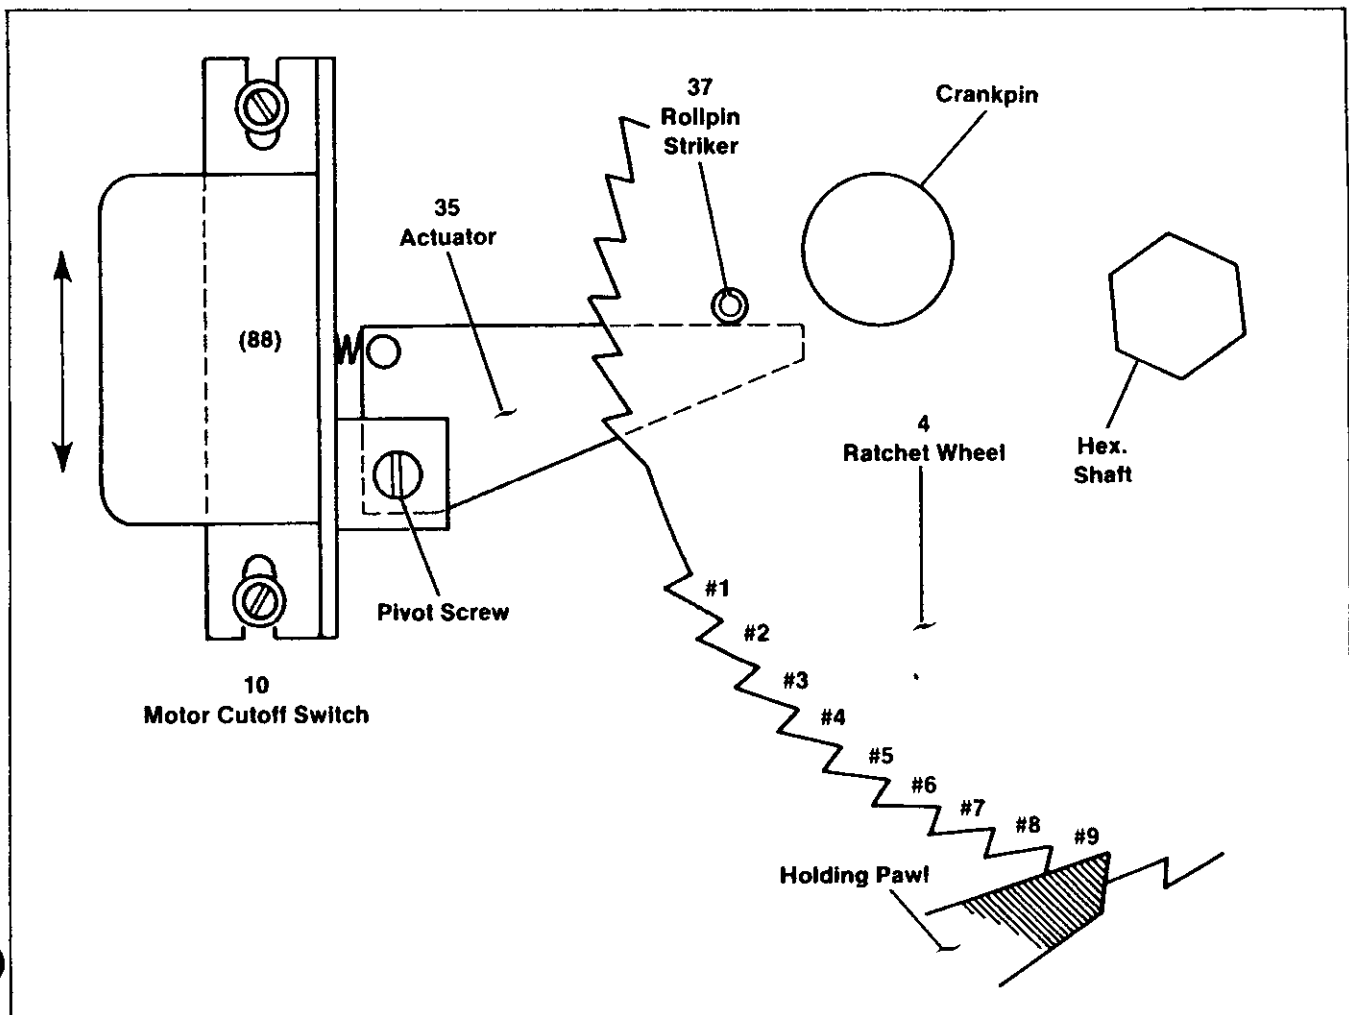

Figure 14. Motor Cutoff Switch
The 88 motor control switch assembly (Fig. 14) is factory adjusted. If it should become inoperative, entire unit must
Advance ratchet and cam assemblies to position shown (Fig. 14). The holding pawl must occupy the ninth (9) tooth position on the ratchet as counted counterclockwise from area on ratchet periphery which lacks two teeth.